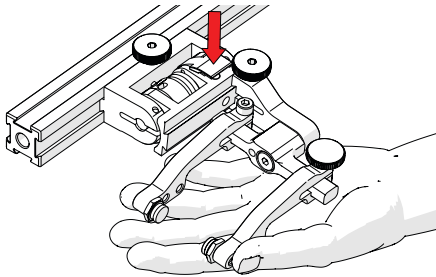

Fig. 80 - Lift slightly and press Latch
2. Lift probe holder slightly and press the latch button (Fig. 80) to release the probe holder the full 45° degrees.